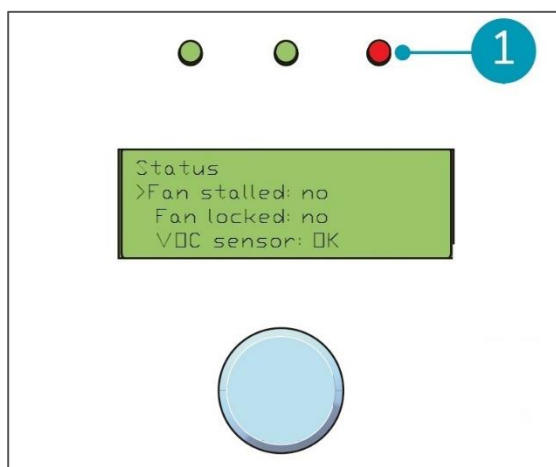

Figure 16
**NOTE:** When the LED indicator on the right side (Figure 16, pos. 1) lights red an error in the system has occurred. Go to the Status menu to determine the nature of the error.